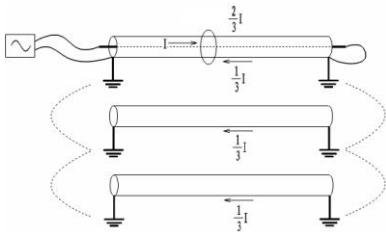

Fig.3.4 External effect:  $\frac{2}{3} I$
If there're other same path cables (with same end positions), the return current will be shunted by these cable sheaths. For example, if there're three cables in same path, the sheath return current of every cable is  $\frac{1}{3}$ . The virtual current is positive and the value is about  $\frac{2}{3}$  of the injected current, while the nearby current is passive and value is about  $\frac{1}{3}$ . Refer below Fig. 3.4
- Example A: the path of 3 cables is same (including the target cable), the test result is: the current of target cable is  $I$ , phase is at  $0^\circ$  vicinity, identification is correct; the current of two neighboring cable is  $I/2$ , the phase is at  $180^\circ$  vicinity, identification is error ( as shown in Fig 3.4)